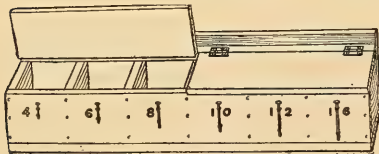

FIG. 47.
Nails and screws should be kept in some kind of order, so the sizes wanted may be got quickly without unnecessary hunting, and several receptacles for these are shown in Figs. 47 to 52. The
49) 6 inches wide by 6 inches high at the back and 5 inches high at the front. Nail together the front, back, and end pieces, then nail on the bottom and fasten the partitions in place so as to divide the box into six equal spaces. The box may either be screwed to the wall or hung upon hooks. If you screw it, do this before putting on the cover. Cut the hinge-strip (*E*, Fig. 49) 1 inch wide by the length of the box and nail it in place to the partition tops. The cover may be made in one piece, or in two as in Fig. 47; hinge it to the hinge-strip. Mark the sizes of the nails upon the front of the box, and fasten nails of corresponding sizes in front of the receptacles with small staples or bent-over brads to help you to associate the lengths with the size numbers. This box has been planned for *common nails* and to hold sizes ranging from $1\frac{1}{2}$ inches to $3\frac{1}{2}$ inches long (4-penny to 16-penny).